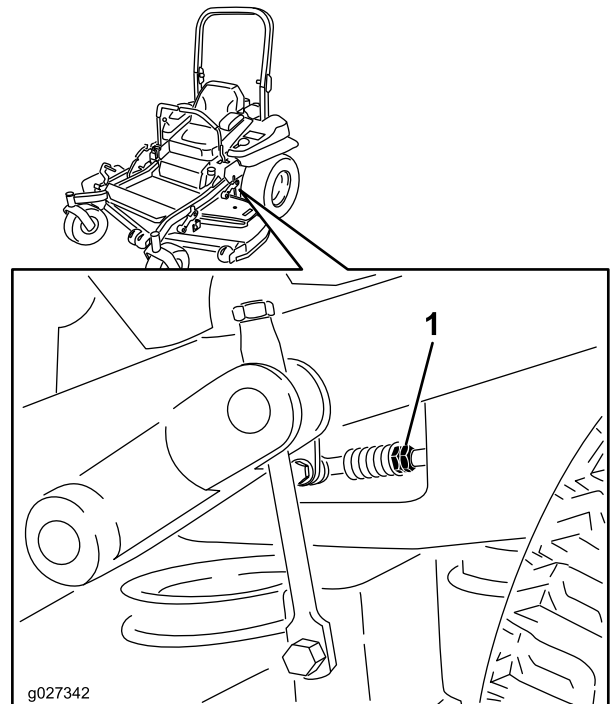

Figure 79
7. Bring the motion-control levers into the neutral position. Adjust pump control rod lengths by rotating the double nuts on the rod in the appropriate direction until the wheels slightly creep in reverse (Figure 79). Move the motion-control levers to the reverse position and while applying slight pressure to the lever allow the reverse indicator springs to bring the levers back to neutral. The wheels must stop turning or slightly creep in reverse.